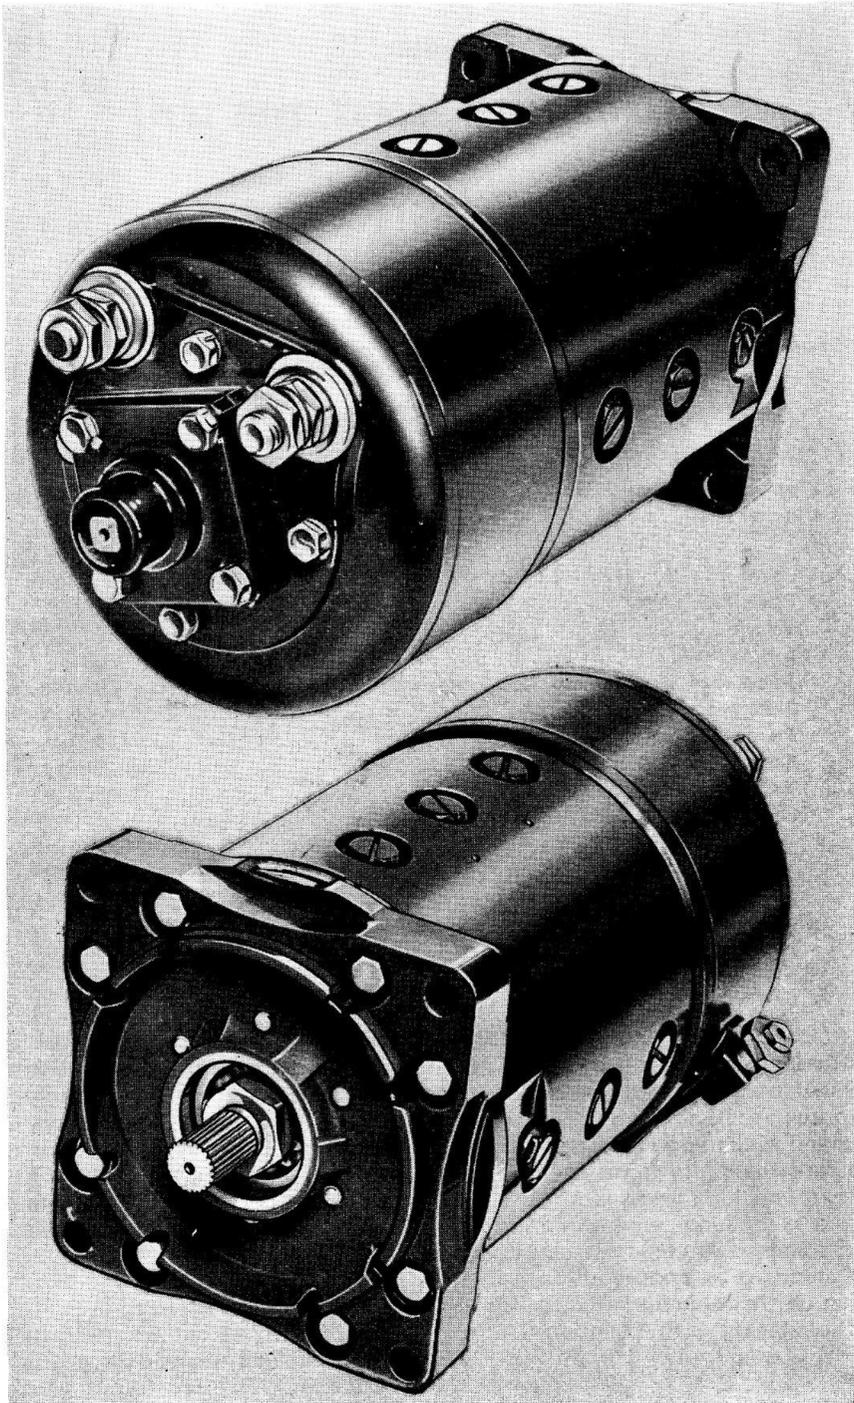

Fig. 1. External views of starter motor, Type C5301
1. The Rotax starter motor, Type C5301 (*fig. 1*), is designed for 24-volt operation and has a nominal time rating of one minute at a rated torque of 10 lb.ft. The armature is wave-wound and the field assembly comprises a yoke (which also forms the body of the machine), four pole pieces secured to the yoke, and a compound winding comprised of four series coils connected in series-parallel and four shunt coils connected in series. Information on the reduction gearing will be found in the relevant engine handbook.